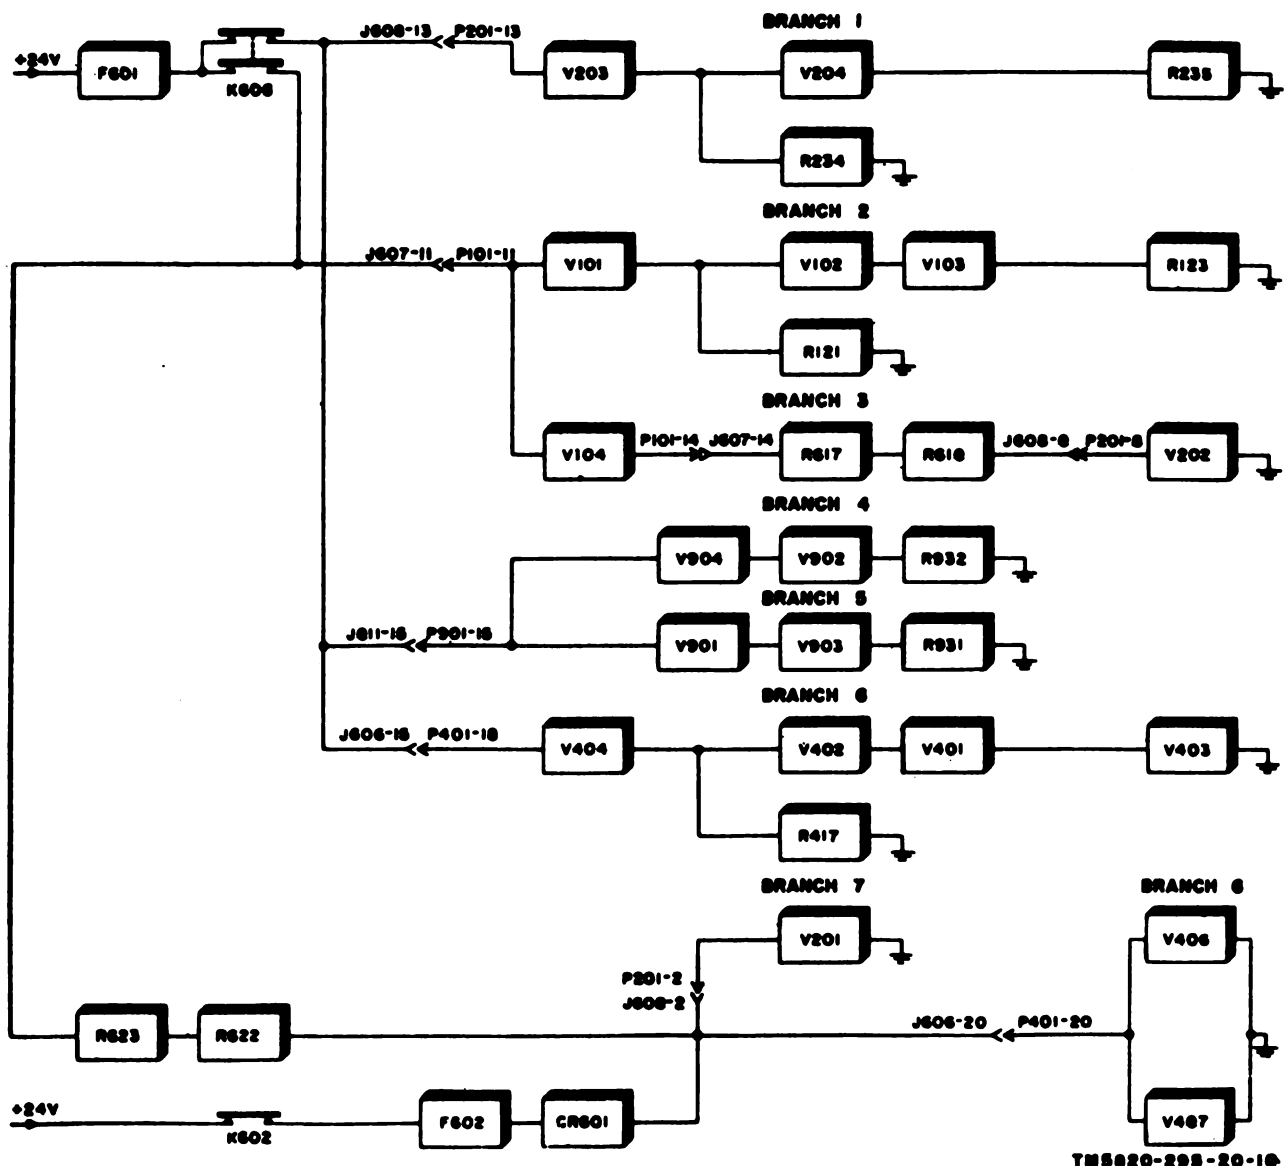

Figure 10. Filament circuits of transmitter, simplified block diagram.
e. Transmitter Filament Circuits (fig. 10). When visually inspecting the tubes for burned-out filaments, it may be discovered that more than one tube is not lighted. Eight main filament branches are fed from the 24-volt supply. If V203 is open, branch No. 1 will be entirely inoperative. If V204 is open, resistor R234 will limit the current through V203 making V203 inoperative, and R121 will limit the current through V101 if V102 or V103 is open. If V101, V102, or V103 is open, branch No. 2 will be inoperative. If V104 or V202 is open, branch No. 3 is inoperative. Branches No. 4 and No. 5 are similar series filament strings. The failure of either branch No. 4 or No. 5 does not make the other branch inoperative, but, if